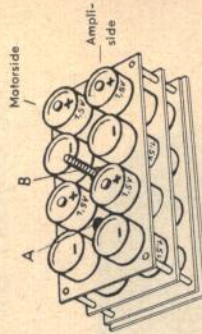

Fig. 2
Attention: If batteries have been fitted incorrectly the tape recorder will not operate and fuses may blow. (See fig. 2).
4. For the battery holder to be inserted correctly, pin "A" must fit into hole "A" in the holder. (See figs. 2 and 4).